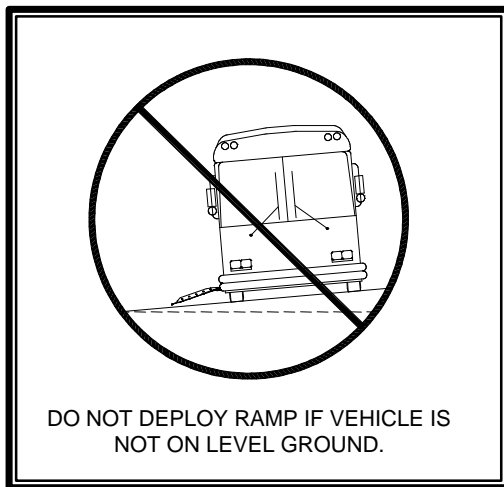

FIGURE 3-1: PARKING DANGER
- 1) Refer to **Figure 3-1**. Stop vehicle on level ground. Lower vehicle, if applicable.